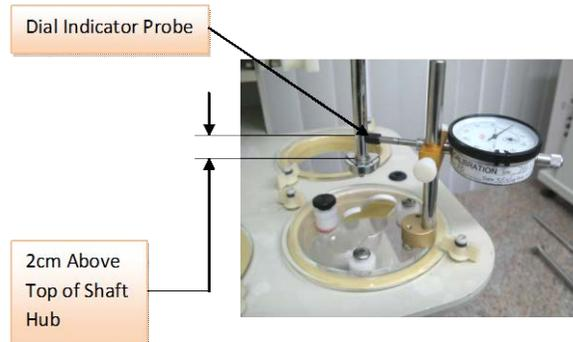

Figure 7
4.5.1.3 With the basket shaft secured, lower and position the dissolution drive head so that the dial indicator probe is located about 2cm above the top of the shaft hub and adjust the location of the indicator assembly to establish a pre-load of at least one revolution of the indicator dial. Tighten the thumb screws to lock the gage in place. See Figure 7.